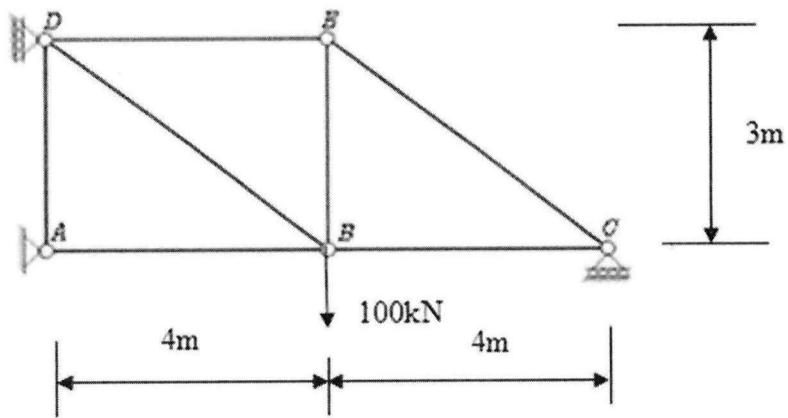

Figure 3(b)
- Q3** (a) State **two (2)** advantages and one **(1)** disadvantage of indeterminate truss over a determinate truss. (6 marks)
- (b) **Figure 3(b)** shows a truss which is pinned supported at A and roller supported at C and D with a vertical load of 100 kN is subjected at B.